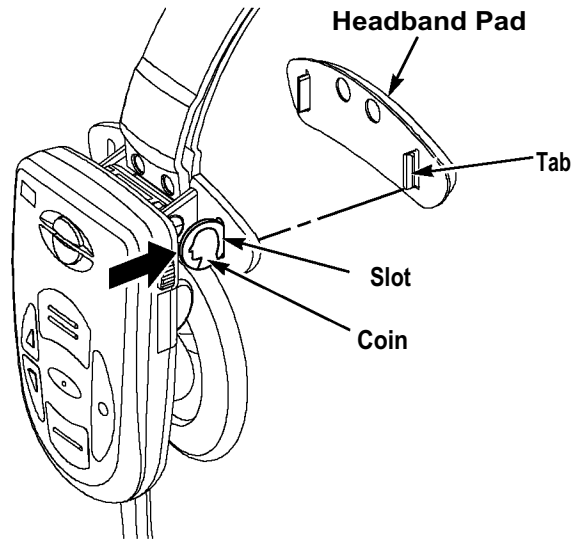

Figure 9.
1. Remove the side headband pad (from above the ear pad). Insert a dime in the slot on the headband pad housing and twist the dime to release the tab. See Figure 9.